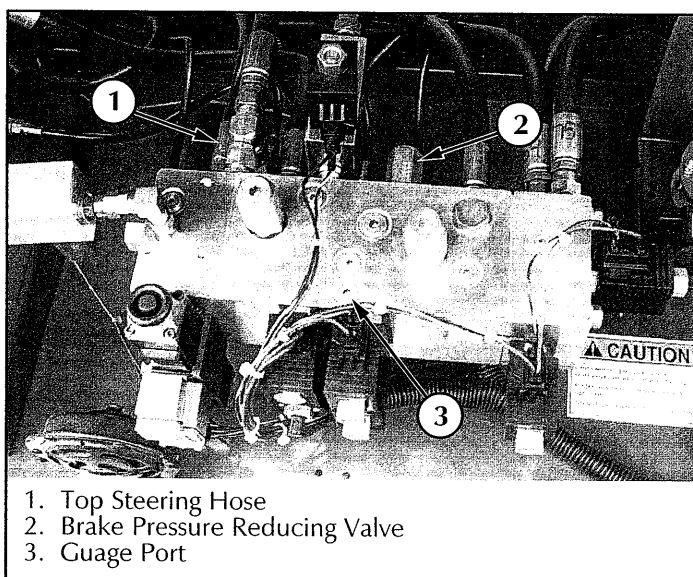

Figure 4-5: Hydraulic Manifold Assembly, Top View
2. Remove the gauge port plug (Figure 4-5) and install a 0-3000 psi (0-207 bar) pressure gauge assembly.
2. Remove the gauge port plug (Figure 4-5) and install a 0-600 psi (0-41 bar) pressure gauge assembly.
## BRAKE PRESSURE REDUCING VALVE (Figure 4-5 & 4-6)